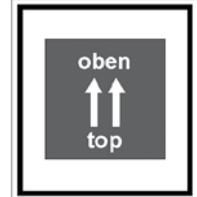

Figure 1
- When installation positions are limited, the correct position is marked as shown in Figure 1